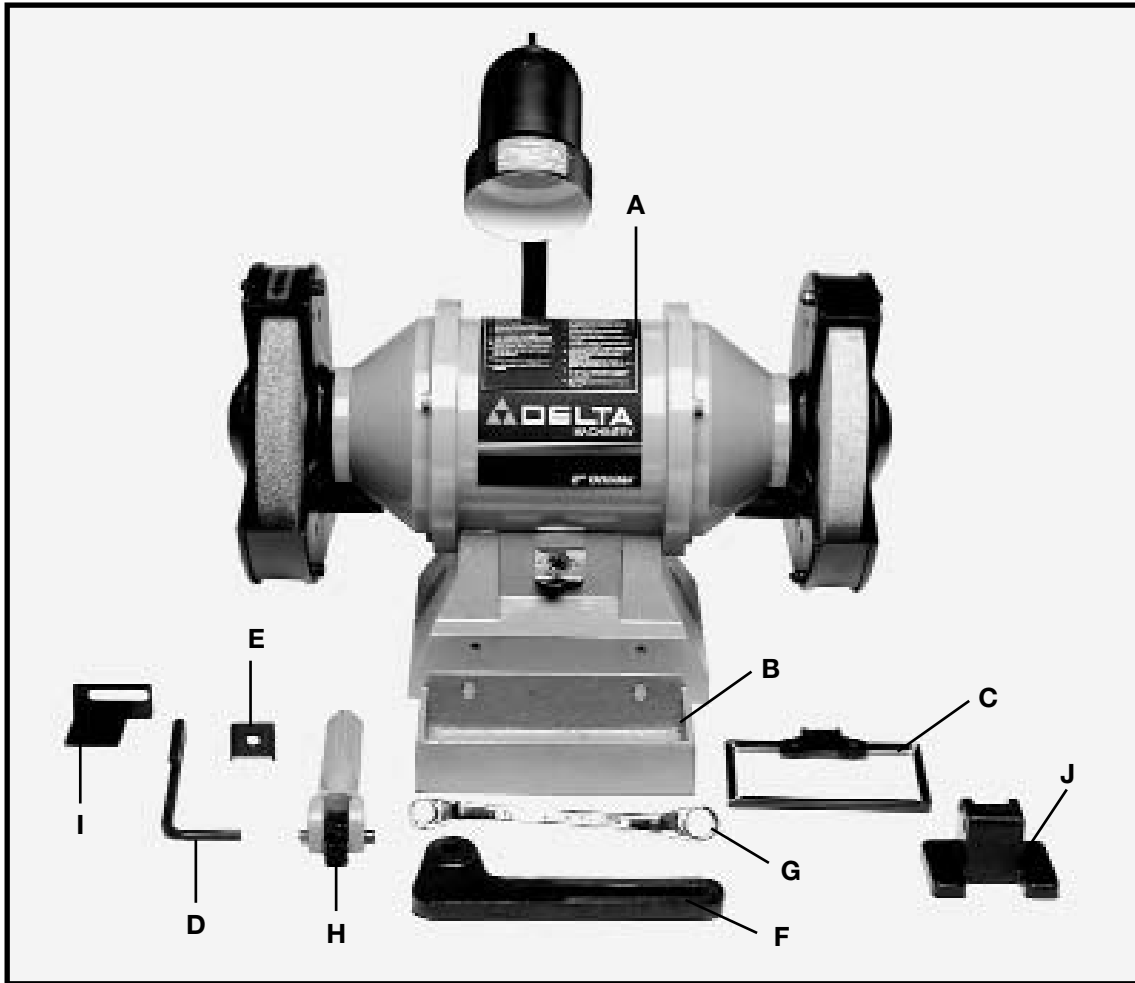
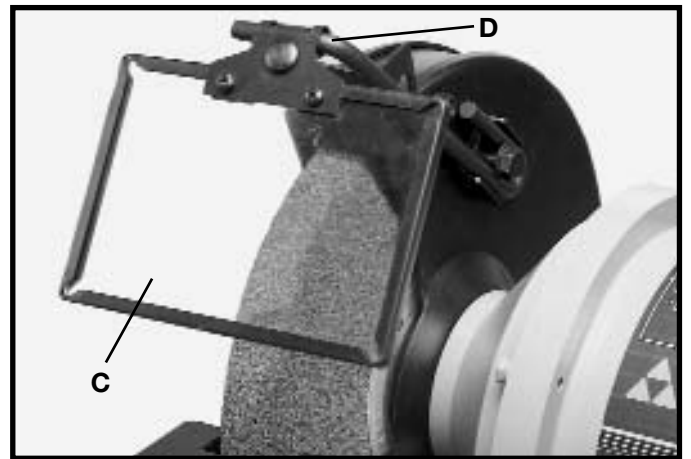

Fig. 1
Fig. 7
Fig. 1 illustrates the components of the grinder.
1. Assemble long end of eye shield mounting rod (D) Fig. 1, to the side of each wheel guard using the eye shield rod bracket (E) Fig. 1, and screw (3) Fig. 2, and washer (8) Fig. 2. **Note:** The mounting rod should be positioned so that the “L” shaped end of the mounting rod is pointing outward, away from the machine. Fig. 7.
2. Insert the “L” shaped end of mounting rod (D) Fig. 7, into hole of frame (C) Fig. 7 and fasten in place with screw (6) Fig. 2, one washer (9) Fig. 2, and one nut (10) Fig. 2. The eye shield (C) is fully adjustable so it can be put in any position by moving the shield (C) or loosening screw (3) Fig. 2 and repositioning rod (D).